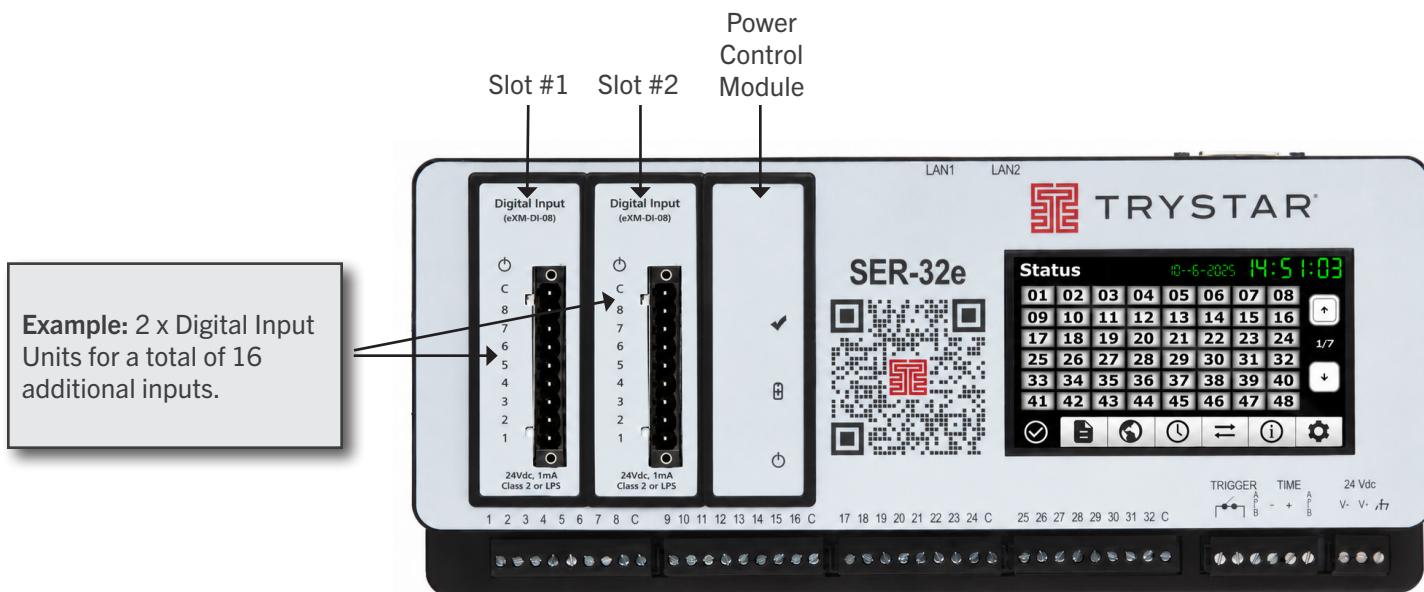

Figure 1-1. SER-32e with 2 Input Modules
The Digital Input Module does not require any additional space or power, it is installed by inserting it into either of the two (2) option slots on the SER-32e (slot 1 or slot 2). See Figure 1-1.